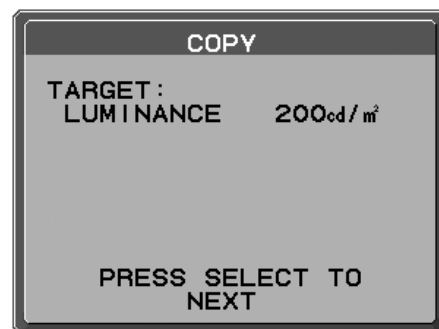

Figure C.6
10. After copying Display A information, the target luminance will be stored and displayed in the OSD of Display B. The target value is not adjustable (**Figure C.6**).